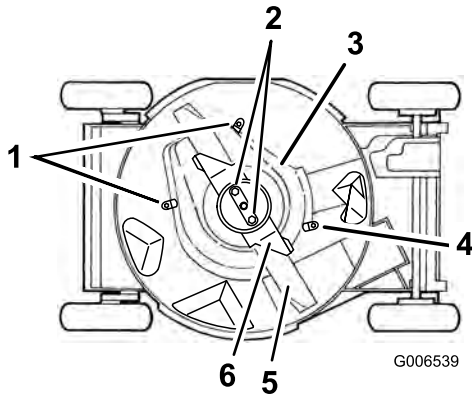

Figure 38
- Loosen the tabs that secure the blade brake clutch shield to the housing by loosening the nuts or the bolts on the tabs (Figure 38). Rotate the tabs 180° to move them out of the way.